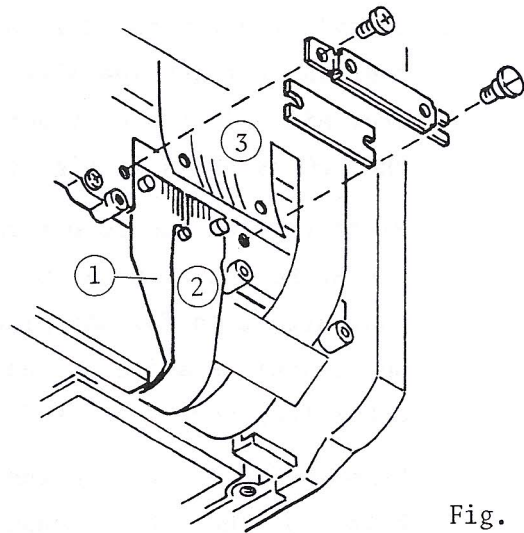

Fig. 43
- b. Install the each FPC to the camera body by procedure of the numeral in a circle. (Fig. 43)